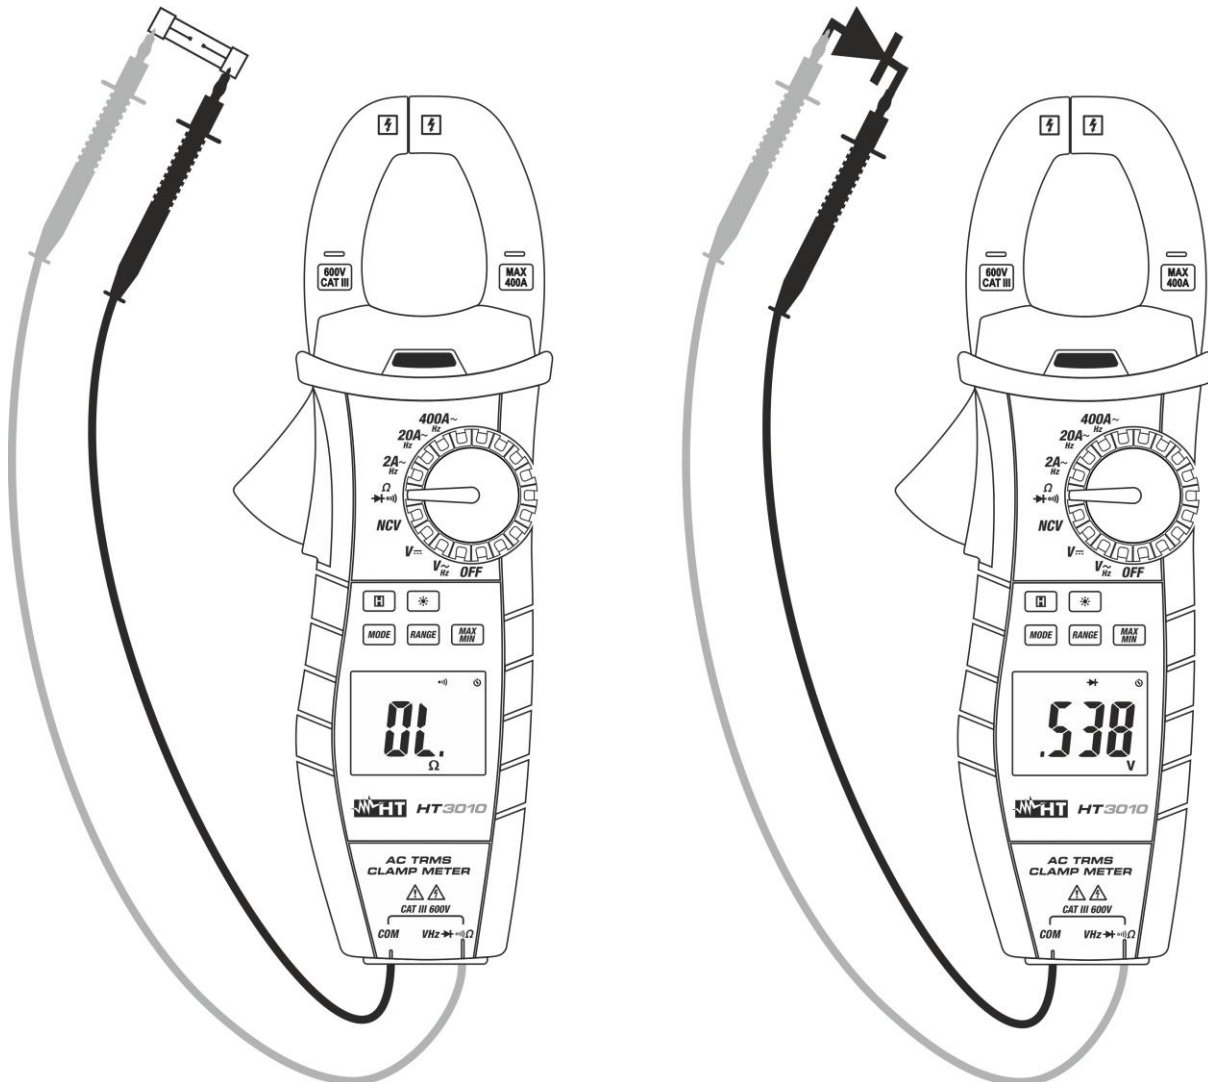

Fig. 7: Use of the instrument for continuity test and diode test
3. Insert the red cable into input terminal $V\Omega Hz \rightarrow \text{bell}$) and the black cable into input terminal **COM** and carry out the continuity test of the object to be measured (see Fig. 7– left side). An buzzer sounds when the measured value of resistance is lower than 30Ω
5. Connect the red lead to the anode of the diode and the black lead to the cathode in case direct polarization measurement is carried out (see Fig. 7 – right side). Invert the position of the leads in case reverse polarization measurement is carried out.